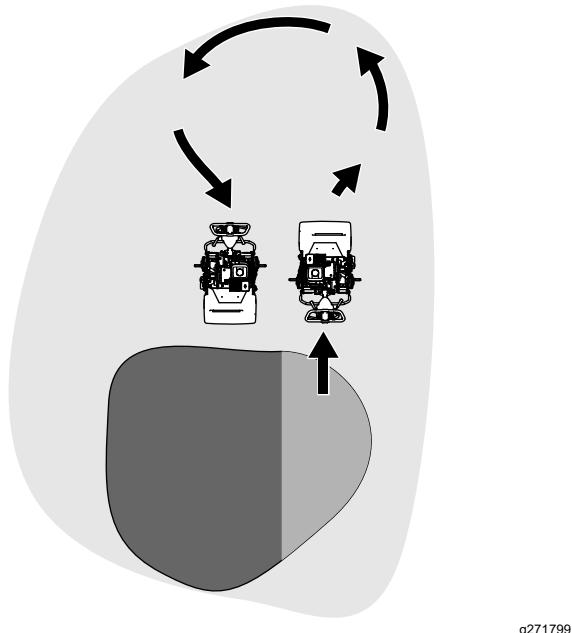

Figure 24
- Turn the machine off the green by raising the cutting reel (pushing the handle down) and performing a tear-shaped turn on the traction drum (Figure 24).
1. Locate the traction-engagement lever on the transmission gearbox (Figure 24).